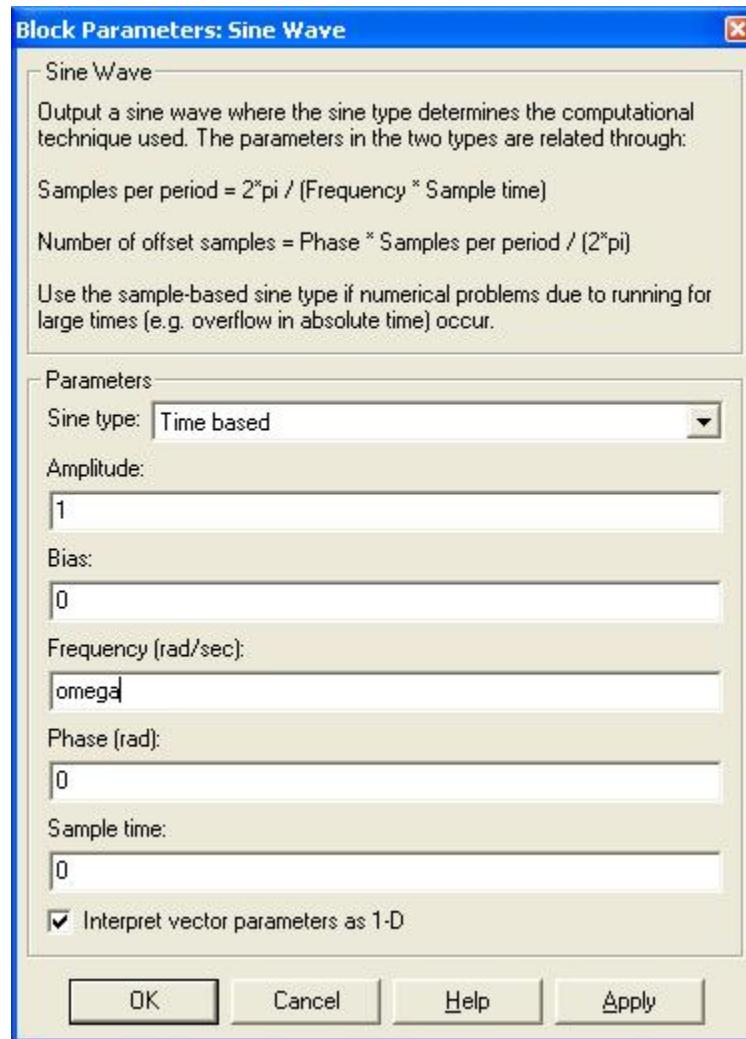

Figure 2.4: Configuration for the implementation of the signal $\sin \omega_u t$
6. We will now systematically construct the Bode plot of the motor when the output is the angular velocity ω using experimental data. Doing so will require information about the magnitude and phase of output sinusoid at various frequencies. To do this you replace the Clock and Fcn blocks by a Sine Wave Block. After you have connected the Sine Wave block to the Write Analog block, you can enter the parameters of the sinusoid you would like to implement. For the generic signal, $\sin(\omega_u t)$, you may enter the parameters as highlighted in Figure 2.4. In this case, the variable `omega`, is